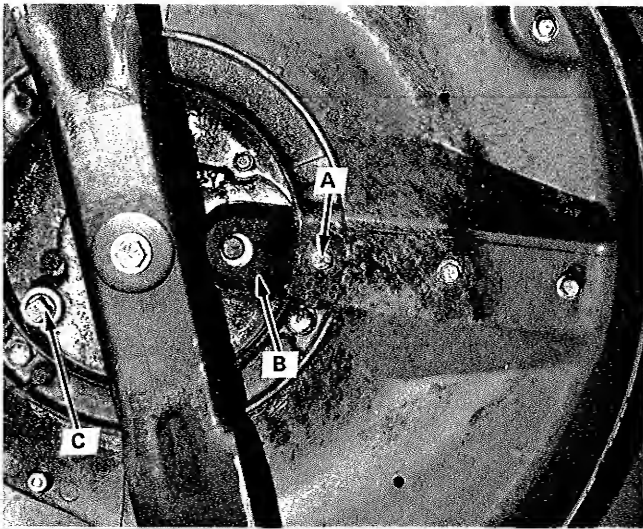

FIGURE 13 - BELT SHIELD
2. The oil may be drained thru oil drain (C, Figure 13) on bottom of engine by removing the plug. The engine must be level.
1. Lift mower up from the spark plug side as directed on decal. Remove capscrew (A, Figure 13) holding on the belt shield (B) .